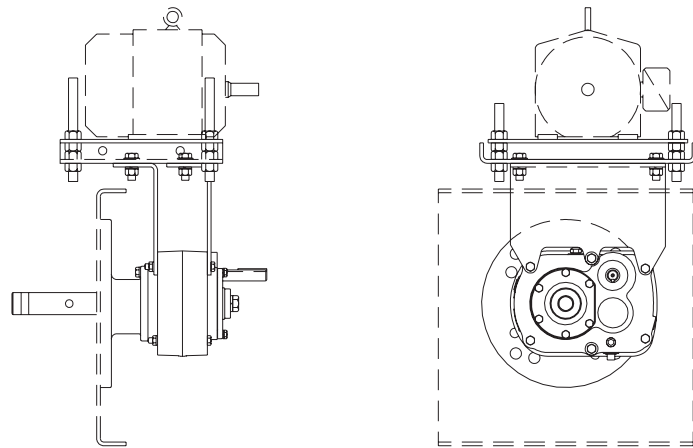

Figure 4 - Complete Drive
- Motor Mount Installation:** The motor mount must be installed on the reducer as shown in Figure 4.